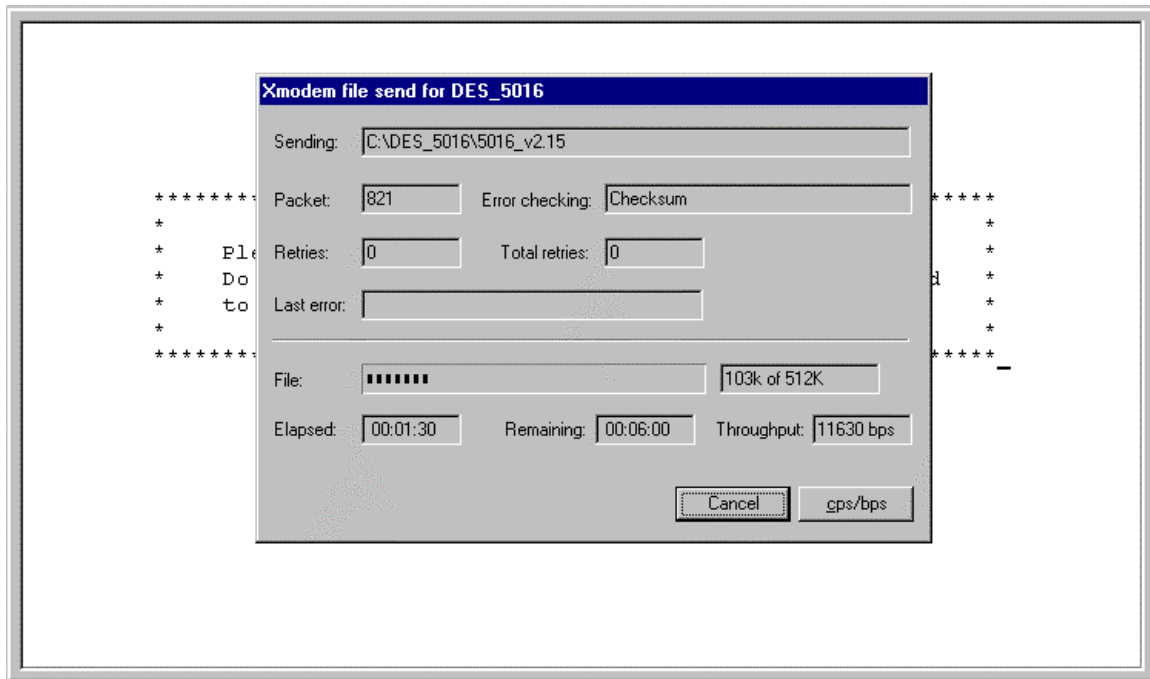

Figure 30: Xmodem
6. The panel, displayed in Figure 30, will display statistics about the transfer, including the elapsed time and the time remaining.